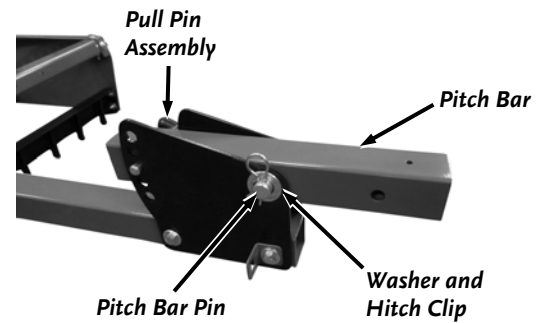

Figure 12
18. Position the Pitch Bar between the Pitch Plates and secure with the Pitch Bar Pin, .81" ID X 1.5"OD X .11" Washer and Hair Pin Cotter Pin (**Figure 12**).